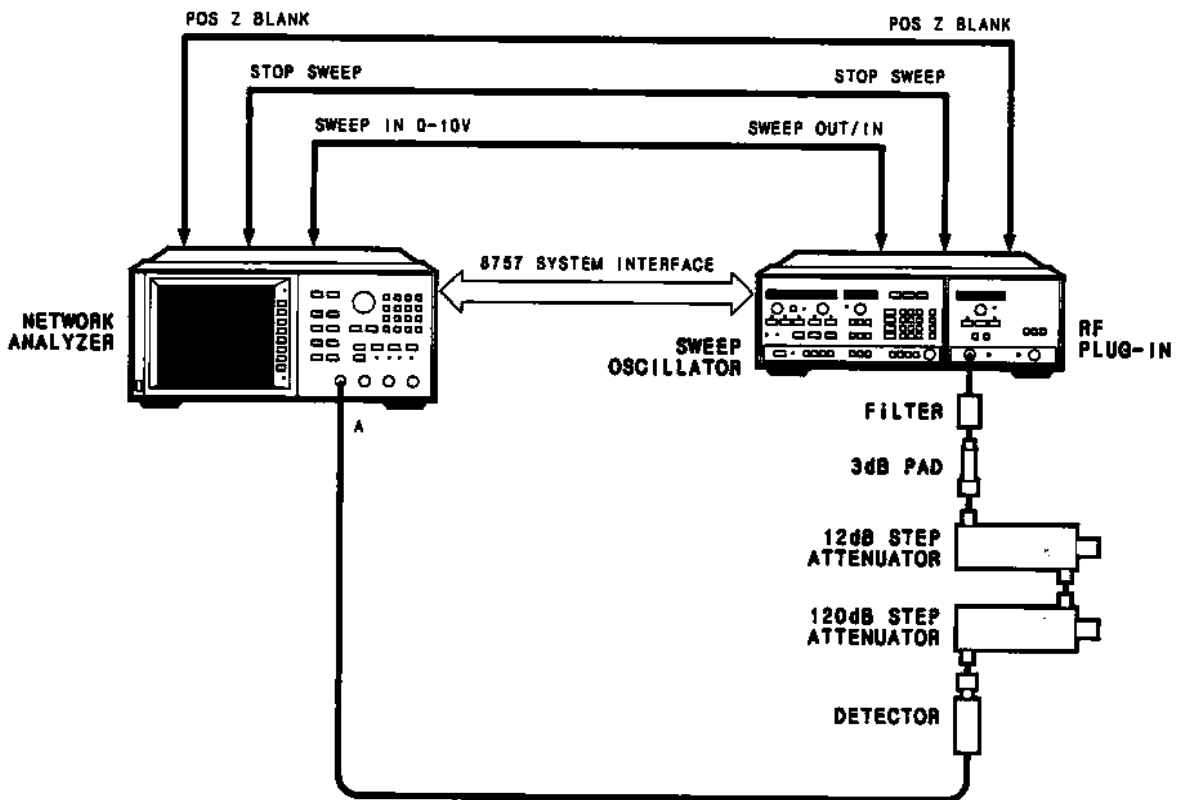

Figure 4-5. Dynamic Power Accuracy Test Setup
1. Connect the equipment as shown in figure 4-5 with the detector connected to input A. Set the 120 dB attenuator to the first value in column 2 (+ 10), and the 12 dB attenuator to the first value in column 3 (0). Allow 30 minutes warm-up. Press **[PRESET]**, both the analyzer and the source will reset.